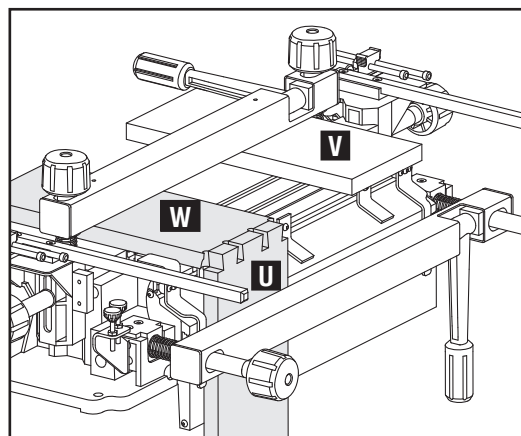

Fig. C11
Because the instructions for most joints are located on labels on the left side of the templates, the wood being cut (U) or (W) Fig. C11 is usually shown lined up on the left side of the jig.